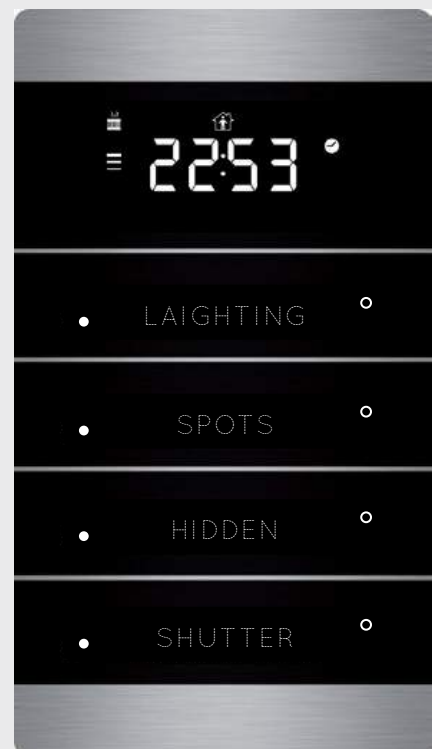

Figure 4: Diaphragm mounted
- Centering of the diaphragm (Figure 4)